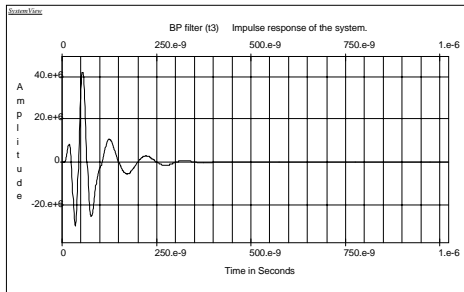
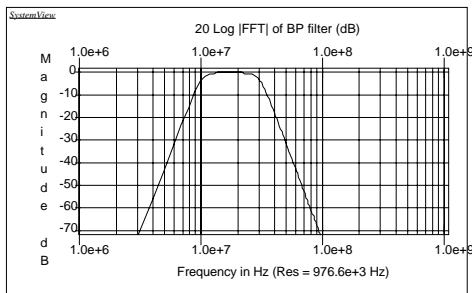
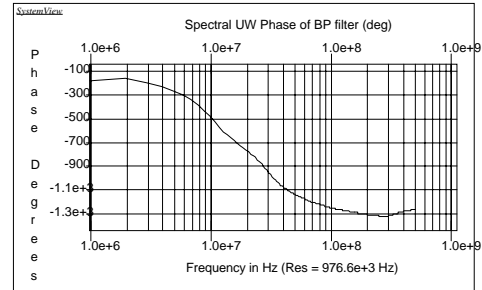

Figure 4. Analysis window impulse response.
Figure 5. Analysis window frequency response.
Figure 6. Analysis window phase plot.
3. A third way to view the frequency response of a system is to set the source to be an Impulse gain = 1 token, Run the system simulation and go into the Analysis Window. Open the BP filter sink (Figure 4.) and observe the system's impulse response. The frequency response in Figure 5 is obtained by the following procedure: Select Calculator, Spectrum, 20 Log ( |FFT| ), OK. From the top toolbar select Lx (Log X-axis).
To get the phase plot in Figure 6, make the impulse response (Figure 4.) the active window and select: Calculator, Spectrum, Phase Unwrapped, OK. From the top toolbar select Lx (Log X-axis).